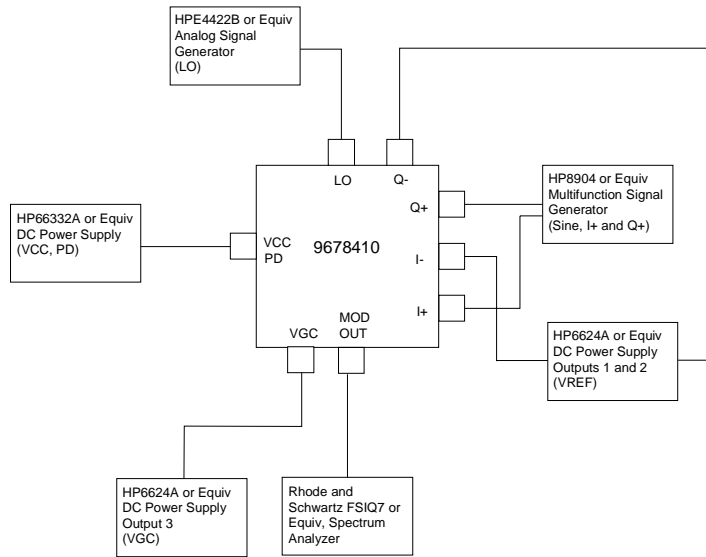

Figure 5. RF9678 Test Setup
1) Configure the test bench as shown in Figure 5.